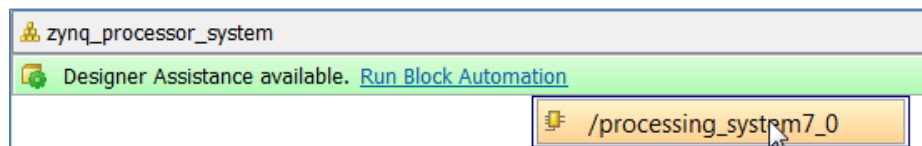

Figure 53: Run Block Automation on Zynq Processing System
6. In the header at the top of the diagram, click **Run Block Automation** and select **/processing_system7_0** (FIGURE 53).